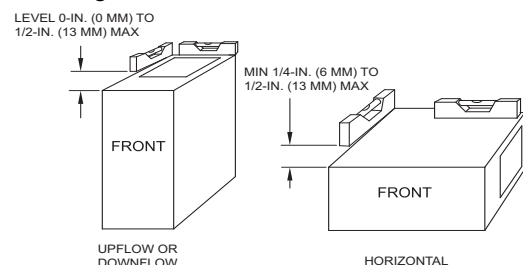

Fig. 19 – Furnace Pitch Requirements
NOTE: The furnace must be pitched as shown in Fig. 19 for proper condensate drainage.
**NOTE:** The furnace must be pitched as shown in Fig. 19 for proper condensate drainage.
**NOTE:** The furnace must be pitched forward as shown in Fig. 19 for proper condensate drainage.